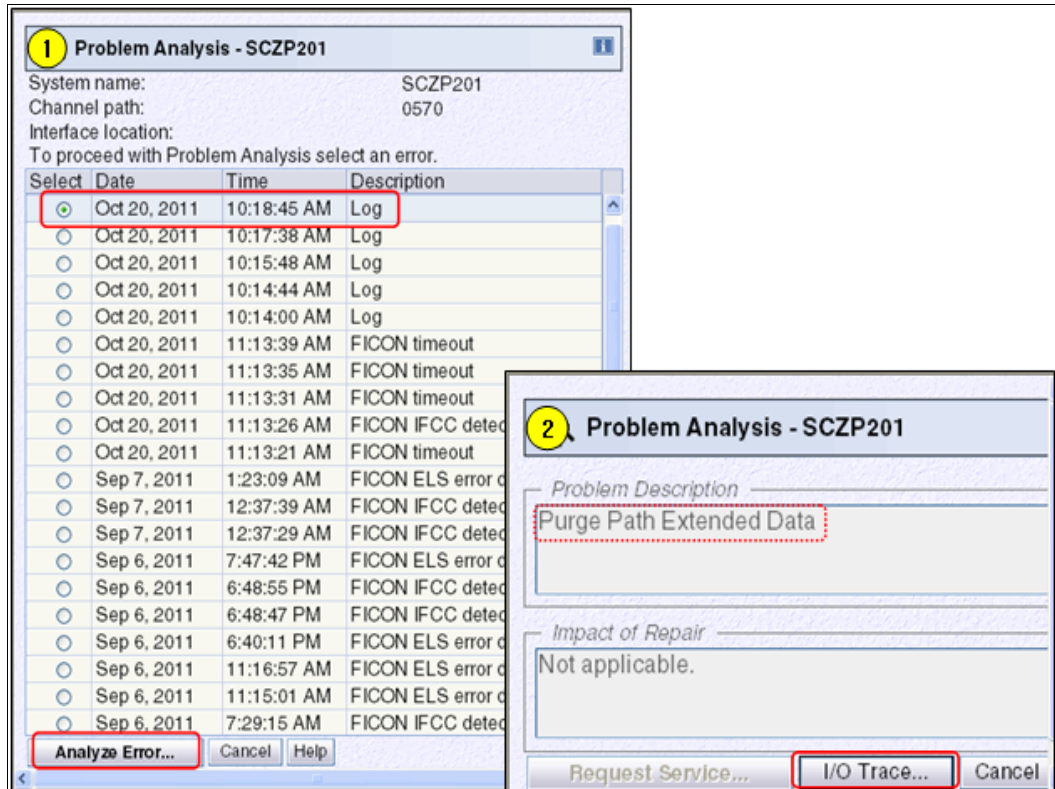

Figure E-29 Purge Path Extended Log panel
When you want to examine a PPE log, follow these steps to open the PPE log shown in the Figure E-29 on page 462:
- The Problem Analysis window gives a description of the error as Purge Path Extended Data. To see the trace taken at the time of the error, click **I/O Trace** as shown in Figure E-29.